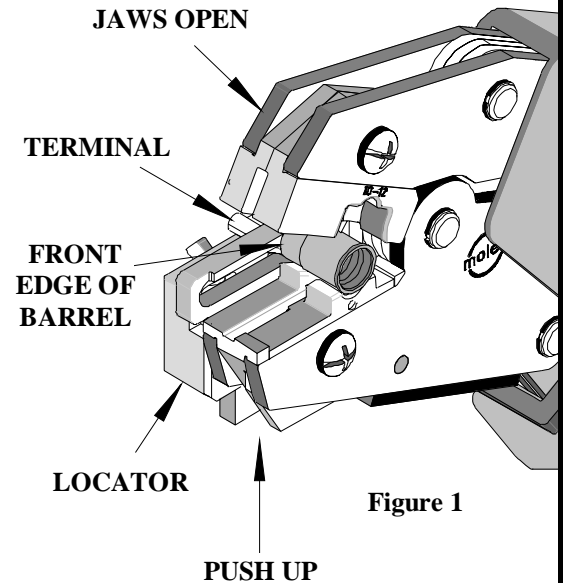

Figure 1
1. Push up on the locator blade and position the terminal with the barrel facing up into the color-coded nest with front edge of the barrel against the locator (See Figure 1). Release the locator blade to hold the terminal in position.